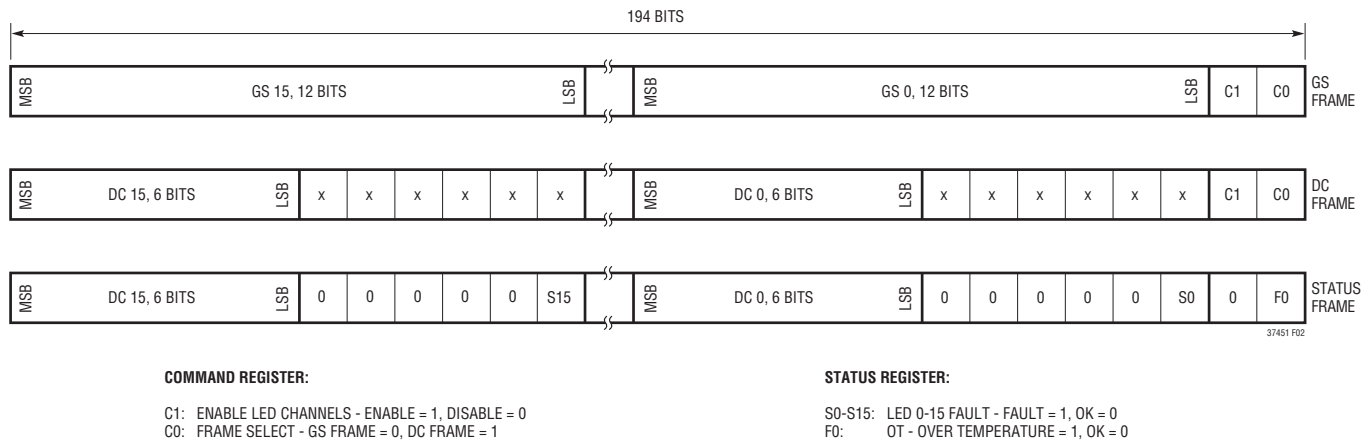

Figure 2. Serial Data Frame Format
Figure 2 shows two serial data input SDI frames (GS frame and DC frame) and one serial data output SDO frame (status frame). All the frames have the same 194-bit in length and are transmitted with the MSB first and the LSB last. The SDI frames are sent with the SCKI signal and the SDO frame is received with the SCKO signal. The C0 bit (frame select) determines any SDI frame to be either a GS frame (C0 = 0) or a DC frame (C0 = 1), and the C1 bit (EN) enables (C1 = 1) or disables (C1 = 0) all the LED channels. The status frame reads back the  $T_{SET}$  pin resistor-programmable over-temperature flag and individual open/short LED fault flags, as well as the individual 6-bit DC setting.